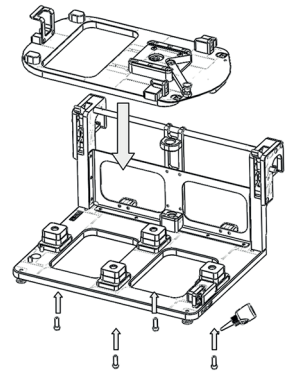

Fig. 7: Mounting the holding plate
- 7 Position the holding plate [1] on the vibration absorbers as per Figure 7.